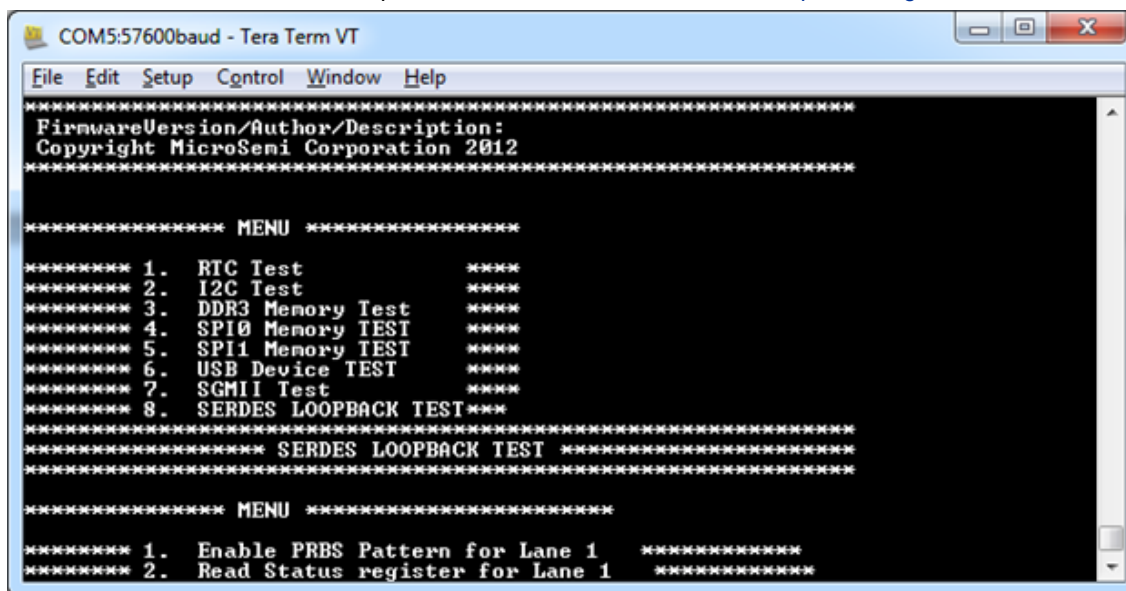

Figure 43 · SERDES Loopback Test
9. Press **8** to run the SERDES loopback test. Refer to Figure 43.